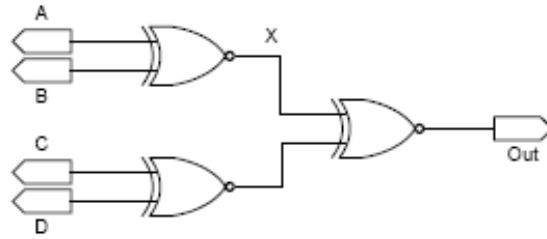

Figure 4: Cascade of XNORs
- 3) Next you use the gates you just designed to build the circuit shown in Figure 4. You implement the same circuit one time using the CMOS XNOR gate and the second time using your PTL XNOR gate. You can assume that somehow magically you have the inverted output values of your single gates available as well (i.e. if Output = low =  $V_{OL}$  then Output' = high =  $V_{OH}$  and vice versa). Further assume  $V_{DD} = 1.2$  V,  $V_{Th} = V_{Tp} = 0.3$  V and neglect body effect.